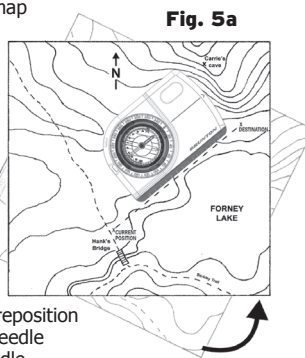

Fig. 5a
2. Keeping the compass in place along your desired direction of travel, reposition the map until red needle outline and the needle are aligned (fig 5a & 5b).